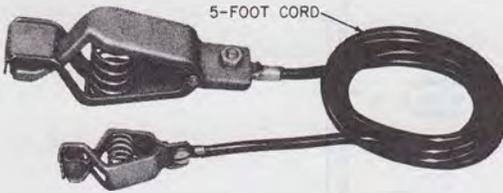

Fig. 3—B Temporary Bond
3.03 C Canvas Bag: An AT-8338 canvas bag is available to carry and store the 188A test set and B temporary bond (Fig. 3).
3.06 B Temporary Bond: The B temporary bond (Fig. 3) is used to temporarily ground a light fixture, metallic conduit, power company hardware power ground wire, or other metallic objects in the telephone company work space which could become energized if a fault developed. The B temporary bond is placed on such attachments only after the metallic object has first been tested with the 188A test set and found to be free of a voltage potential. When placed, the bond is first attached (small clamp) to a reliable ground source and then to the metallic object. When the work is completed, the bond is removed from the metallic object and then the ground source. Should a fault develop when the B temporary bond is in place, the insulation may overheat and smoke which should alert the employee to descend the pole immediately and avoid contact with the bond.